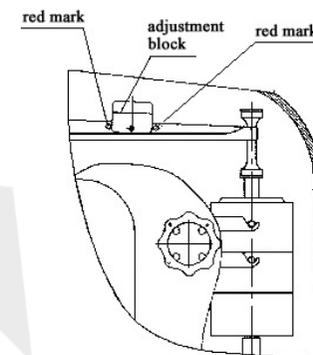

Figure 6
- 8 Make sure that the adjustment block on larger lever (9) is located between the two red marks (see Fig 6). Otherwise place it to the correct position. Place the larger anvil into the hole over the elevating screw rod and the level meter onto the anvil. If necessary, insert metallic cushion into the bottom seat of machine body so that the levelness in two directions are within 0.2/1000.